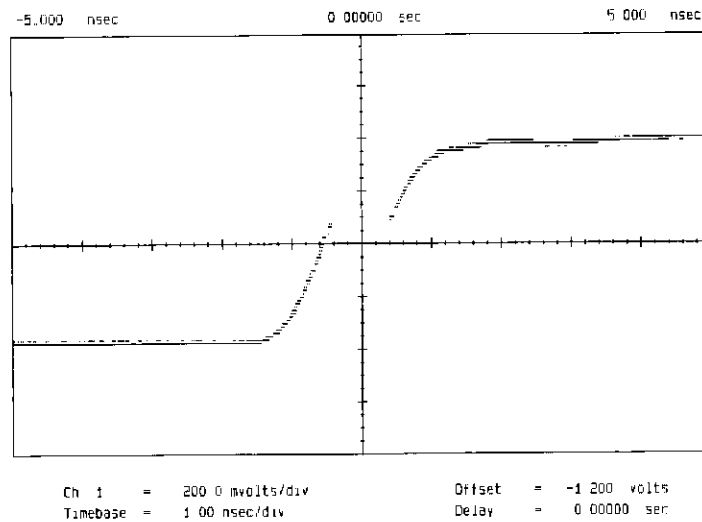

Figure 3-2. Leading edge with area of discontinuity (no data present).
4. Observe display for an area of the waveform where no data is present. Refer to figure 3-2.